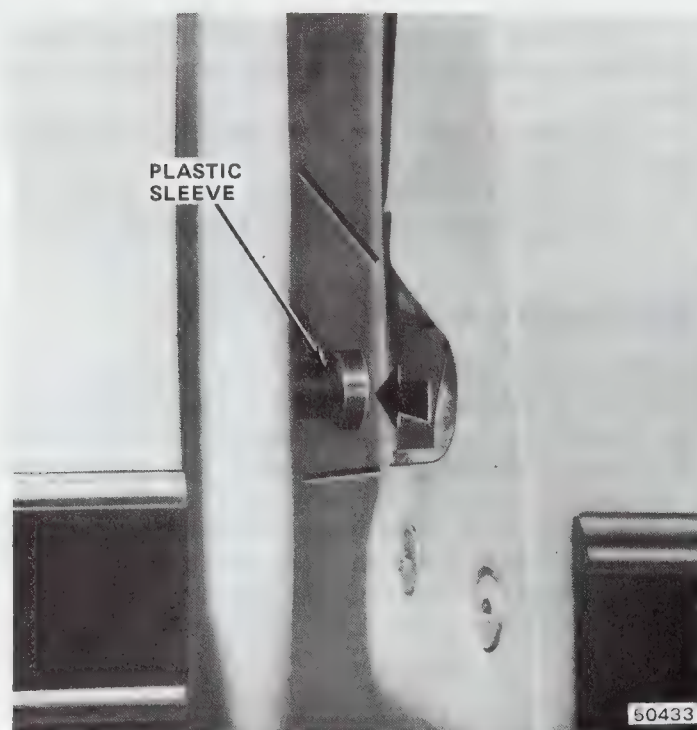

Fig. 3J-68 Lock Striker Alignment
- (1) Determine proper striker alignment (fig. 3J-68).